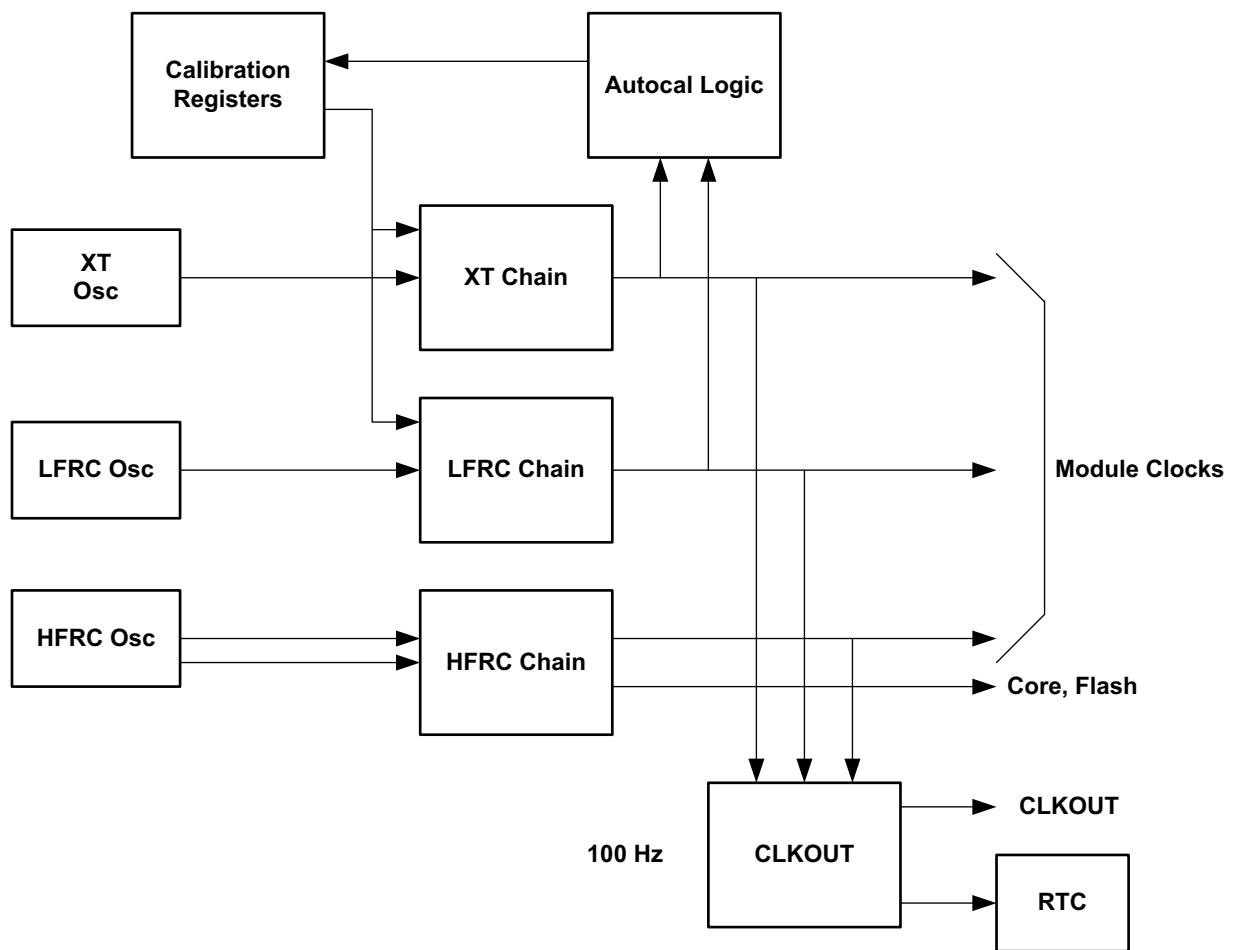

Figure 61. Block diagram for the Clock Generator and Real Time Clock Module
A high-level view of the Clock Generator Module, which supplies all clocks required by the Apollo3 Blue Plus SoC, is shown in Figure 61. These clocks are derived from one of three fundamental clock sources: a high precision crystal controlled oscillator (XT), a low power 1 kHz RC oscillator (LFRC) and a high frequency 48/96 MHz oscillator (HFRC).